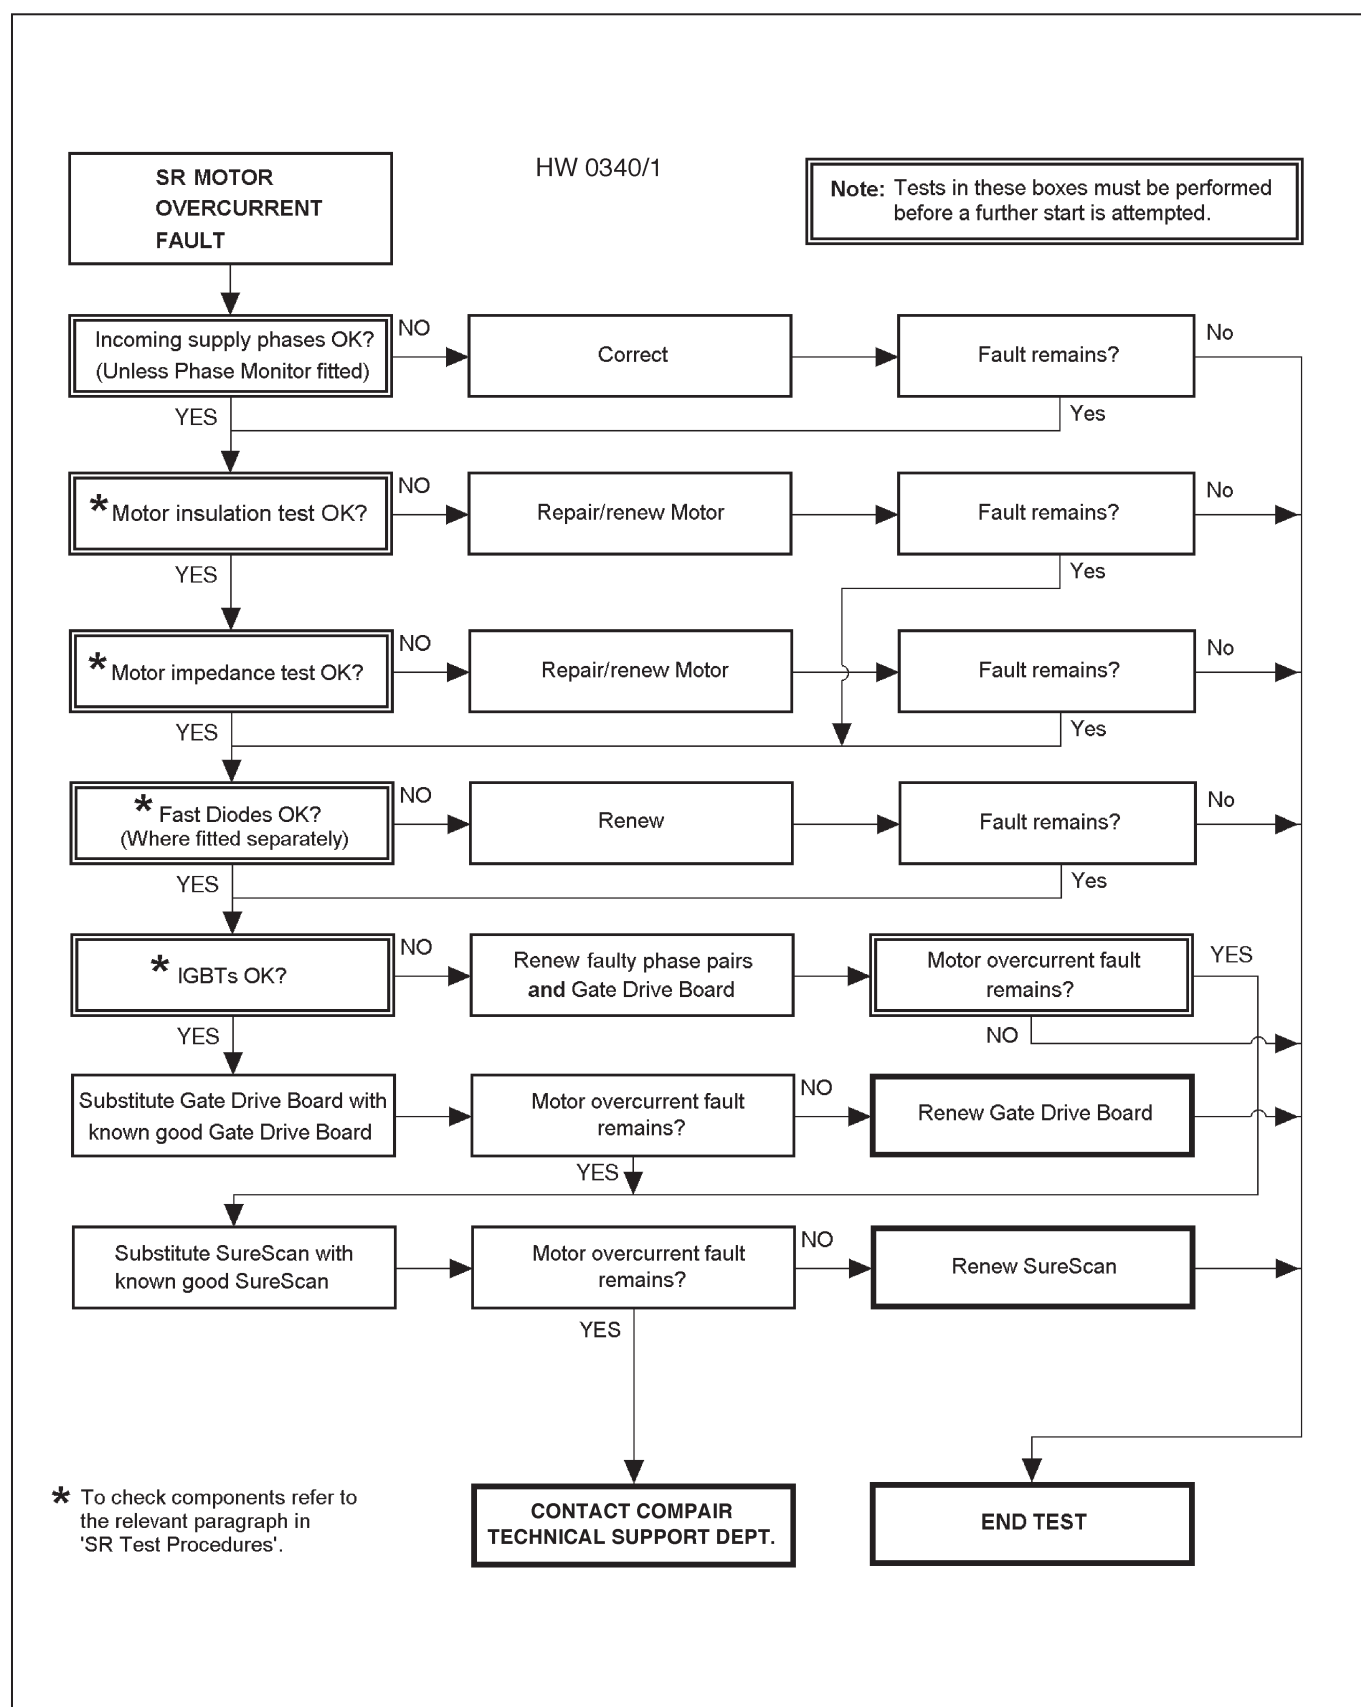

Fig. 4.9 - Motor Overcurrent Fault
4.8.3 SR Motor Overcurrent (fig. 4.9)
- b) Refer to the flow chart in fig. 4.9 for the fault finding procedure.